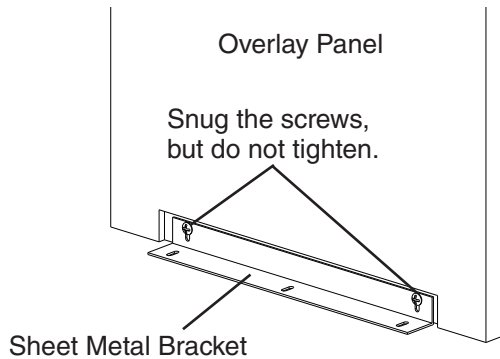

Fig. 13
- 1) Fasten the sheet metal bracket to the overlay panel using the two M4x8 truss head screws provided. **Snug the screws, but do not tighten.** See Fig. 13.